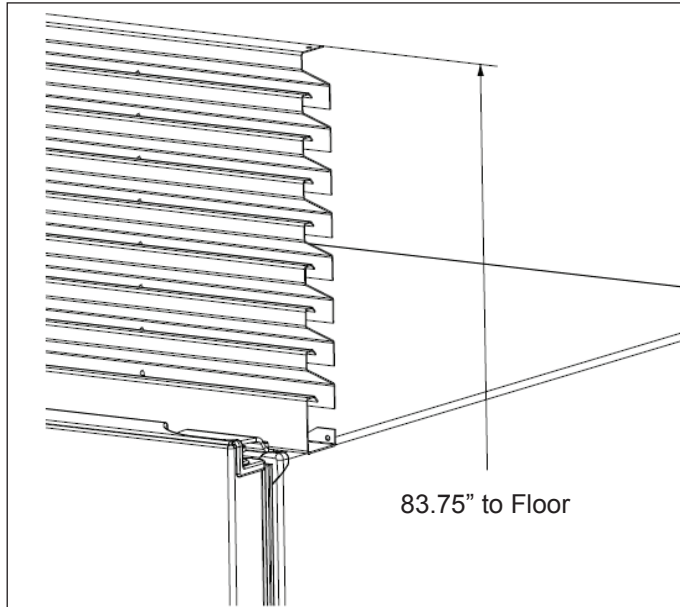

Figure 11
7. a. Raise unit(s) until top trim reaches a height of 83.75" from floor and level. (See Figure 11.) (See Leveling Instructions Step 14.)